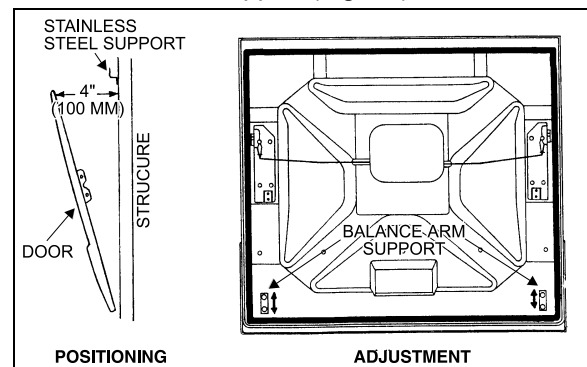

FIGURE 55: BAGGAGE COMPARTMENT DOOR 18065
- Slightly open the door, position it to obtain a gap of 4" (100mm) between structure and door panel upper lip, maintain door in this position while an assistant completes tightening the two bolts retaining door to each balance arm support (Fig. 55).